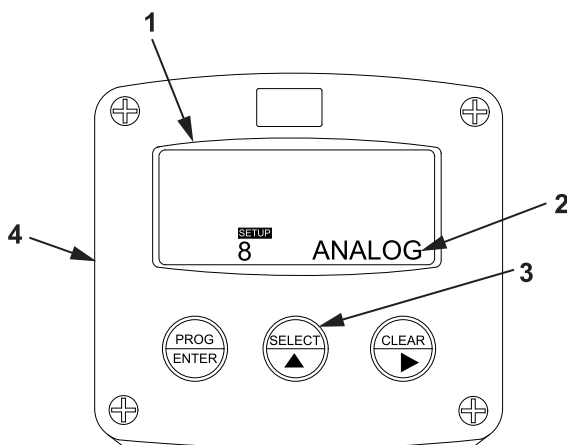

Figure 37. ANALOG Display.
17. Verify that ANALOG (Figure 37, Item 2) appears on the display screen (Figure 37, Item 1).
18. Verify default settings for function group ANALOG (Figure 37, Item 2) as follows:
- a. Press the SELECT key (Figure 37, Item 3) on the tank volume meter monitor (Figure 37, Item 4).